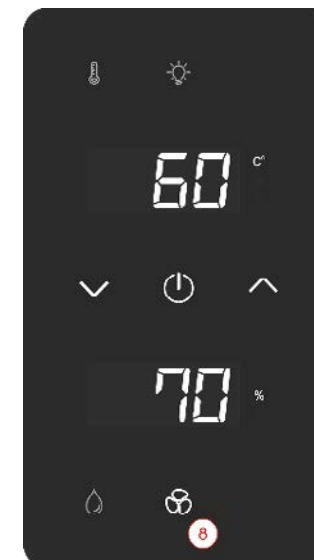

Fig. 13 Switching the fan on
1. Press the "Fan button" (Fig. 13/Item 8).
4. Press the "Fan button" (Fig. 13/Item 8) again to save the selected value.